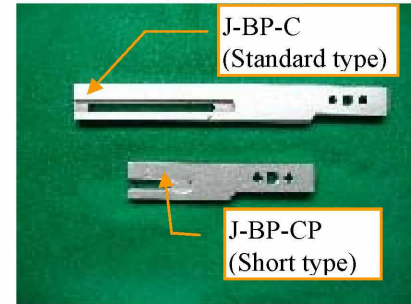
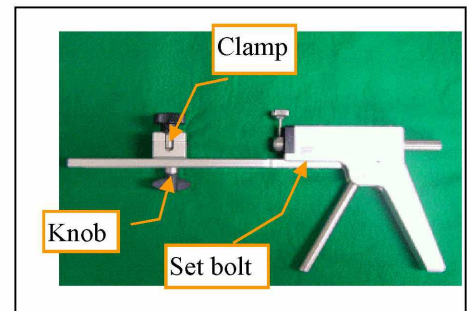

Fig. 39– Names of parts in replacing the base plate
Fig. 40– Names of base plates
- If the base plate for the J-BP-C (standard type) is too long, it may be replaced with the J-BP-CP (short type) (see Fig.39 and Fig. 40).